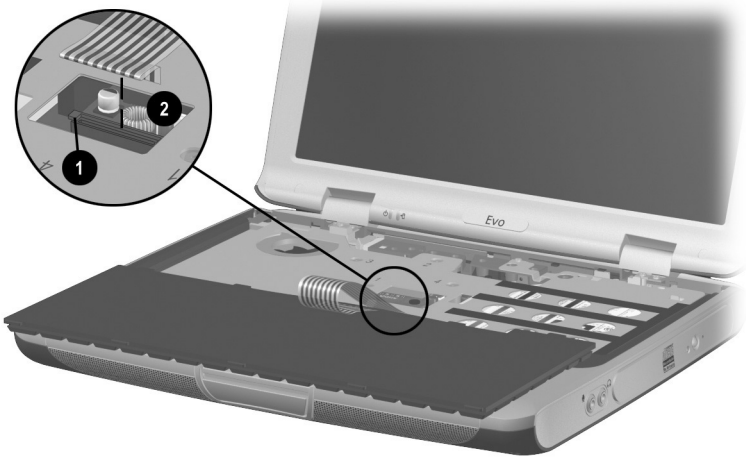

Figure 5-18. Disconnecting the Keyboard Cable
4. Release the ZIF connector ❶ to which the keyboard cable is connected and disconnect the keyboard cable ❷ (Figure 5-18).